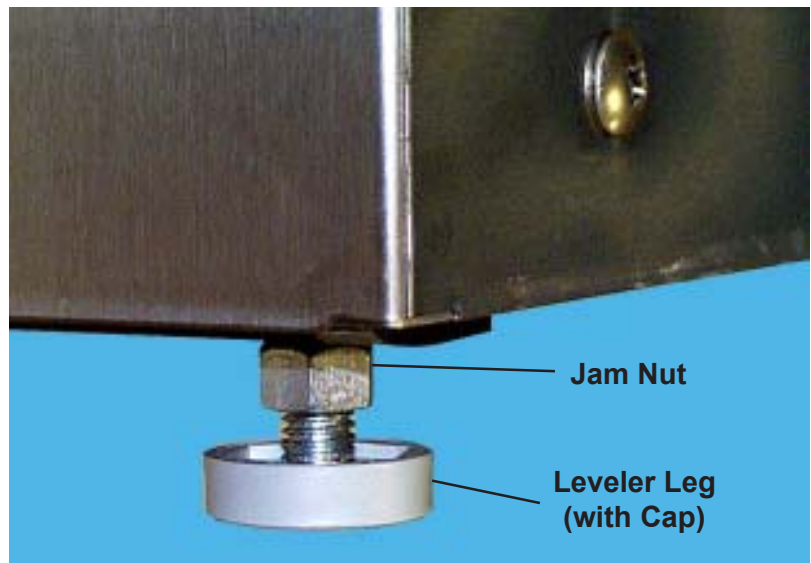

Figure 9. Leveler Leg With Jam Nut and Cap
2. On each leg to be adjusted, use a 9/16-in. wrench to loosen the jam nut (Figure 9).